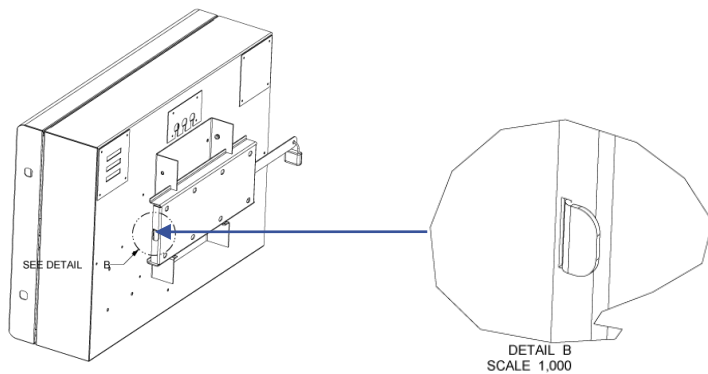

Figure15
STEP 19": To fully secure the unit to the wall and prevent issues of theft, take the locking bar and feed it through the slots on the mounting brackets and plate (Figure15)
STEP 25: Attach a padlock (Not Supplied) and secure once the locking bar has been securely fitted, power up the unit (Figure15).